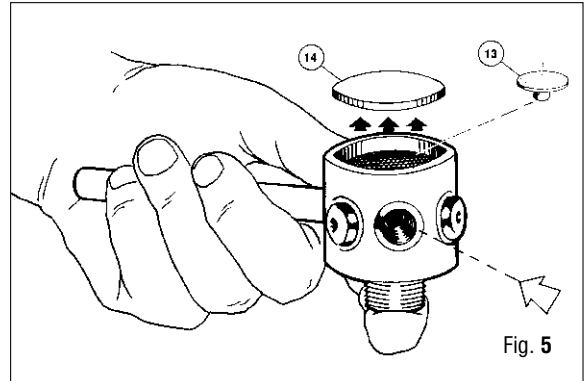

Fig. 5
9. Pressurize with compressed air (below 7 bar - 101.5 psi) through a low pressure port (3/8") and remove diaphragm (14) and poppet button (13). (Fig. 5)
To facilitate removal of the diaphragm it is recommended to close (using a finger, for example) the entrance to the high pressure chamber (Fig. 5).